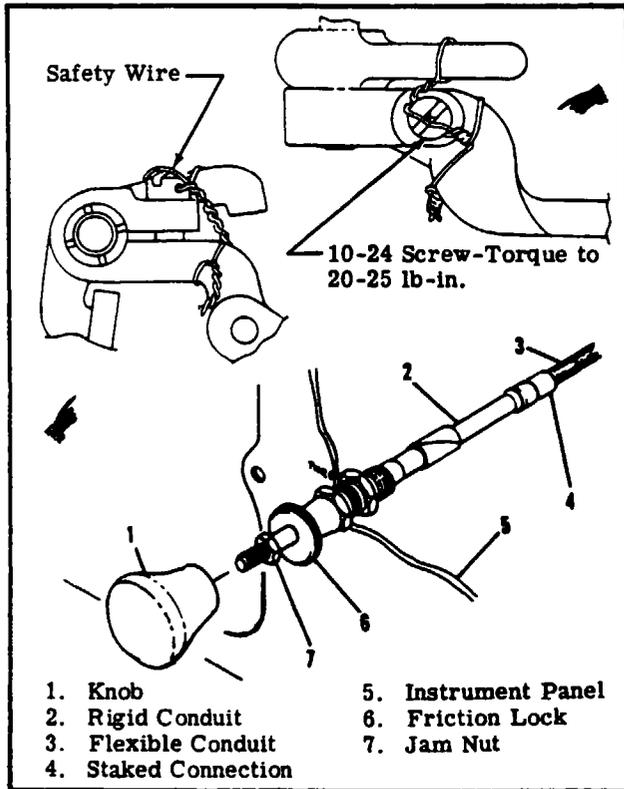

Figure 11-8. Throttle Control
i. Reverse the preceding steps for reinstallation. Use new gaskets when installing carburetor. Rig controls in accordance with paragraphs 11-52, 11-53 and 11-54. Check carburetor throttle arm to idle stop arm attachment for security and proper safetying at each normal engine inspection in accordance with figure 11-8.
Before rigging throttle control shown in figure 11-8, check that staked connection between rigid conduit and flexible conduit is secure. If any indication of looseness or breakage is apparent, install new throttle control before continuing rigging procedure.